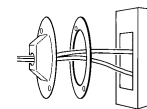

Fig. 2
Step 1: Feed the supply wires from the house through the lampholder mounting gasket, and through the back of the mounting plate itself (Fig. 2).